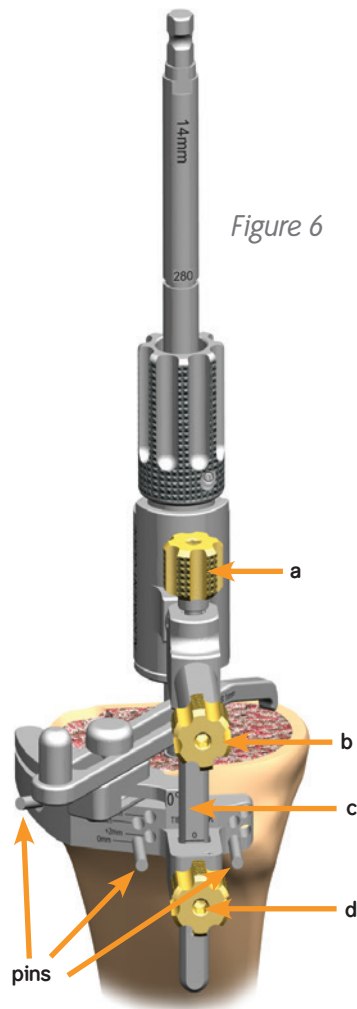

Figure 6
1. Pin the tibial cutting block to the tibia by inserting pins first through the central holes in the 0mm position, then the oblique hole (Figure 6).